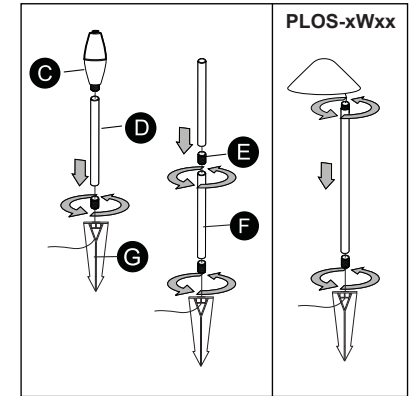

Fig. 1
1. Fixture can be set to multiple heights using downrods. Select height desired and assemble as shown in (Fig. 1). Do not over tighten.